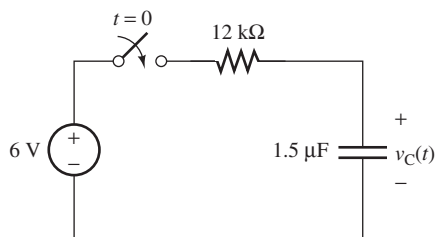

FIGURE P5.4 Circuit for Problem 5.4.
- 5.4** (A) Find the value of $v_C(t)$ in Figure P5.4 at $t = 42 \text{ ms}$. $v_C(0) = 0$. (The switch closes at $t = 0$.)